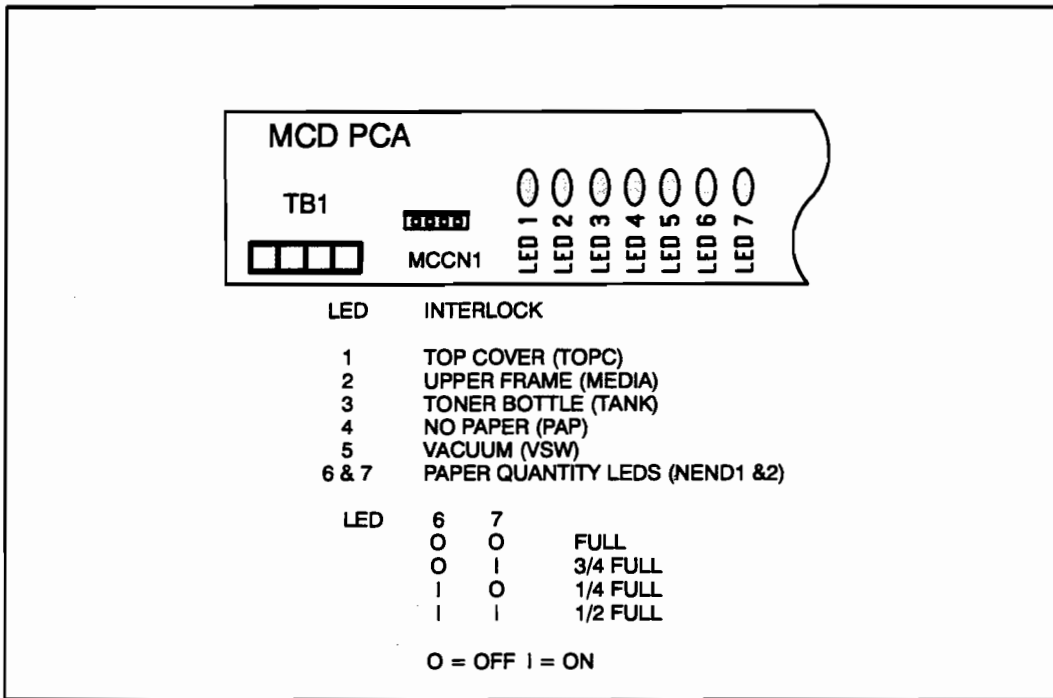

Figure 8-19. MCD Interlock LEDs
6. Initiate the operational mode which caused the error and observe the LEDs on the MCD PCA. See Figure 8-19 to determine the interlock circuit involved.